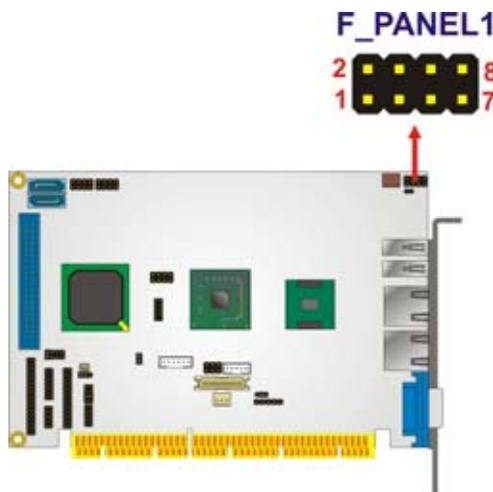

Figure 3-12: Front Panel Connector Pinout Locations
- CN Location:** See Figure 3-12